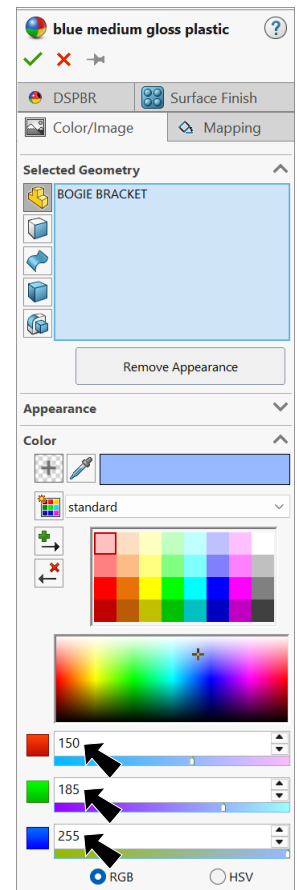

Fig. 42
Step 3. Over in the Appearances Property Manager, under **Color**, **Fig. 42**